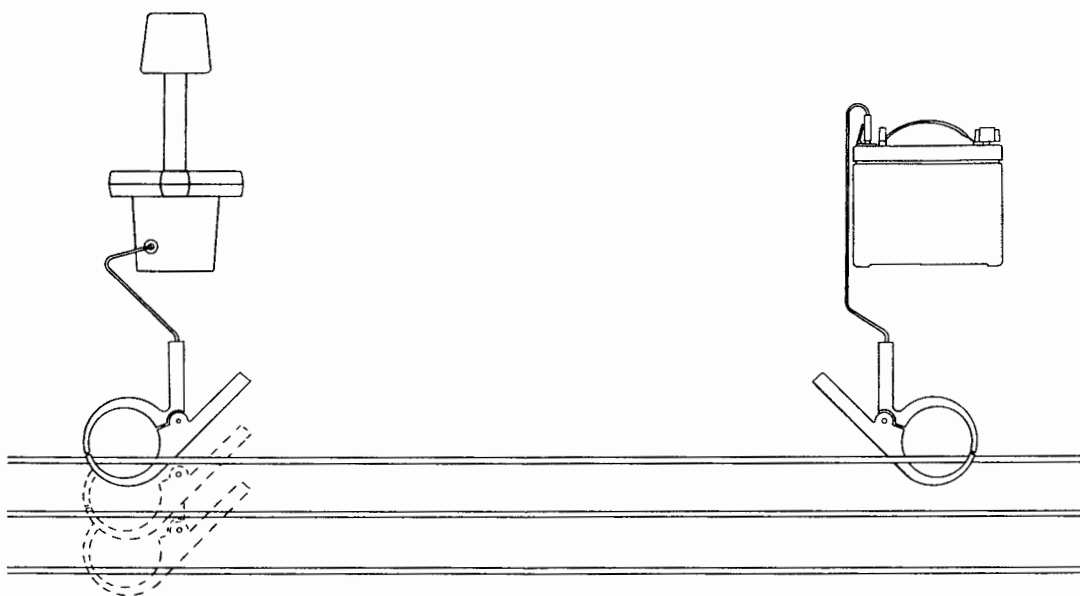

Figure 4-7: Position of Metroclamps When Using Two
3. Place the Metroclamp around each conductor in succession, making sure that the jaws are fully closed. The conductor with the highest field strength reading is the target conductor. (Figure 4-7)